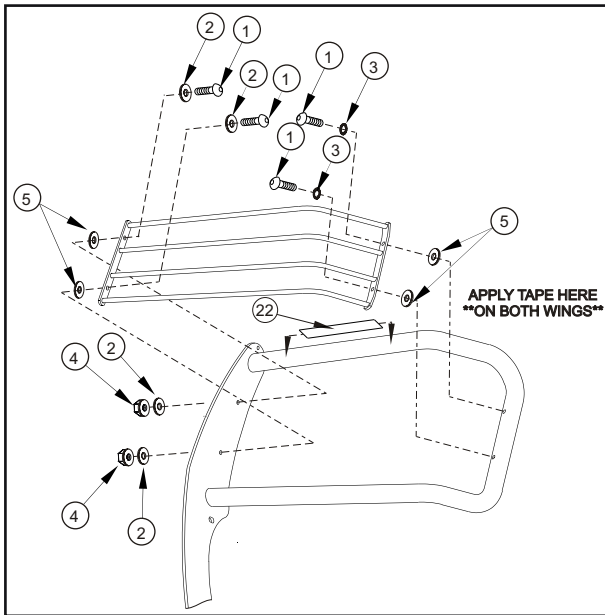

FIGURE 1
- STEP 2. Attach light guard assemblies as shown. **SEE FIGURE 1.**
- STEP 9. For chrome assemblies. If light glare is being experienced off the wings of the Sportsman, anti-reflective tape has been supplied to reduce glare. With headlights on, note where the reflection is concentrated on the wing. Clean the wing well with a non-abrasive cleaner (rubbing alcohol works the best.) Trim the anti-reflective tape to the appropriate size where the glare was located and apply tape. **SEE FIGURE 1.**